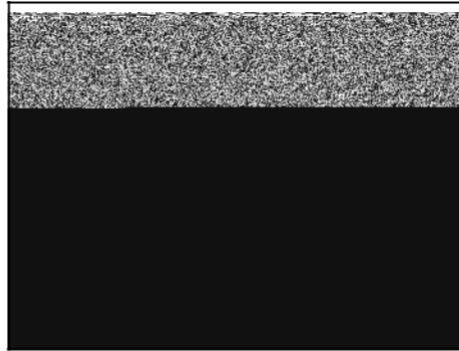

Figure 10
3. 3 Amp DC Only (Figure 10)
- One red lead (A) from stator
- Red connector (B) output lead